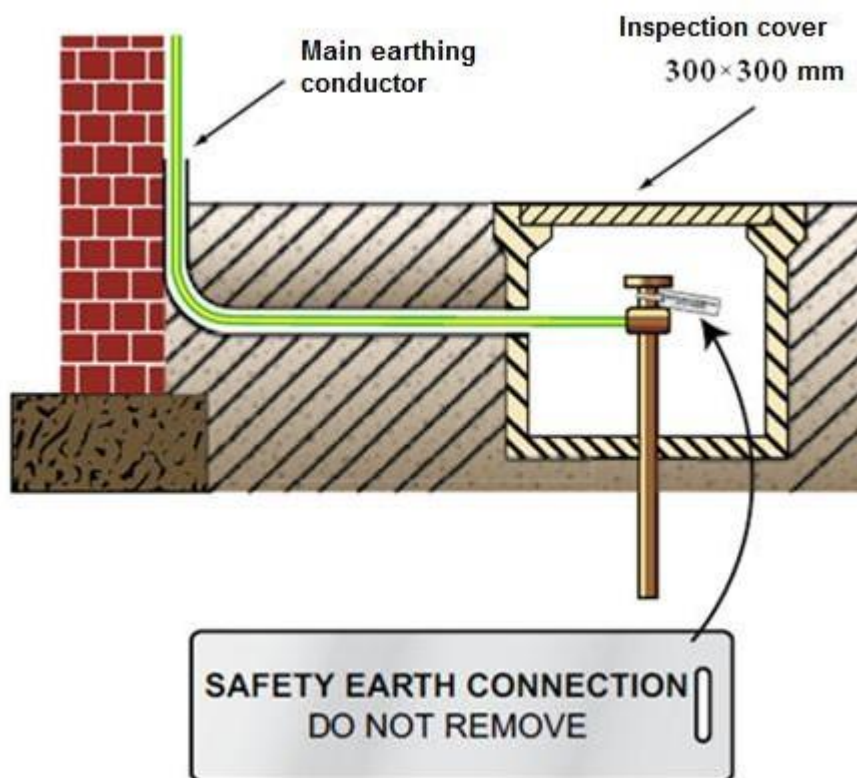

Fig.10
- Where the final connection to the earth electrode or earthing terminal is made there must be a clear and permanent label **Safety Electrical Connection - Do not remove** (see {Fig.10}).